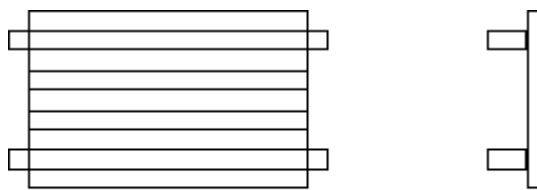

Figure 7. Fire grate
6. A grate must be made from 3x3x1/8 in. (30x30x3mm) rsa. This should have an area of 12x8in. (300x200mm) just less than the cross sectional area of the combustion chamber, and should stand 4 inches (100mm) from the base of the combustion chamber. The grate, shown diagrammatically in Figure 7, can be assembled by